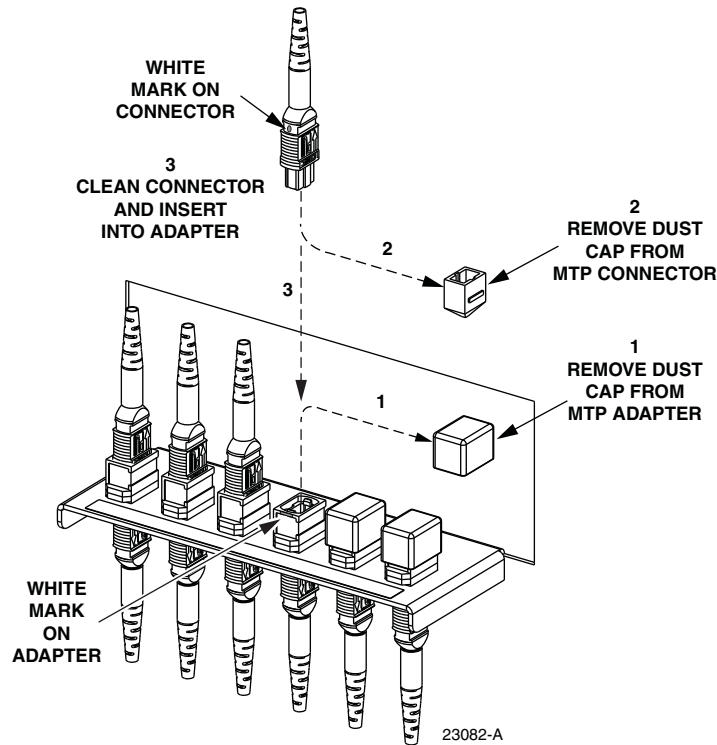

Figure 50. Connecting MTP® Connector to MTP® Adapter
12. Remove the dust caps from the bulkhead adapters and the cable MTP® connectors as shown in Figure 50.